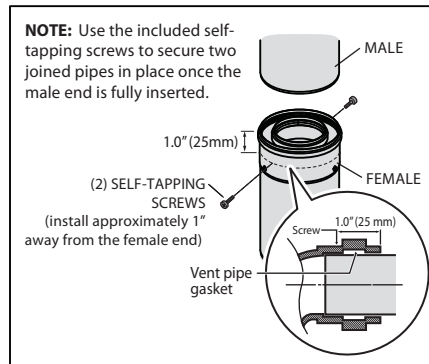

Figure 3
3. Install all sections of the vent pipe with the female gasketed ends point away from the appliance and towards the termination. Use the included grease if necessary to ease the installation. **(Fig.3)**